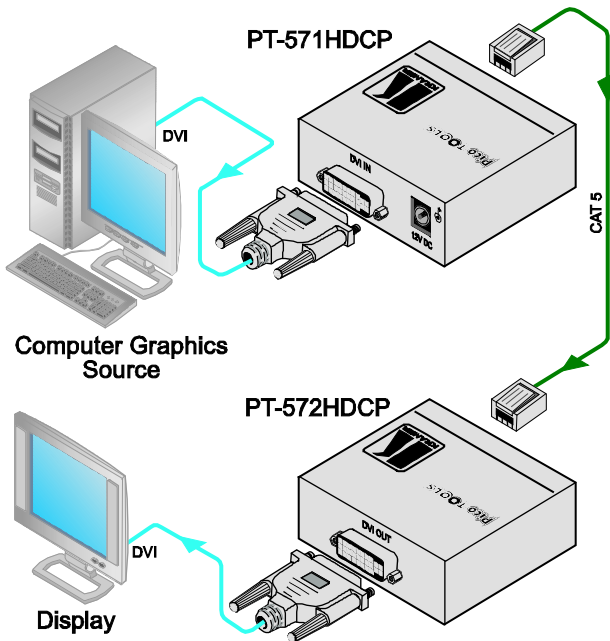

Figure 3: Connecting the PT-571HDCP / PT-572HDCP DVI Line Transmitter/Receiver
To connect the **PT-571HDCP** to the **PT-572HDCP**, as illustrated in the example in Figure 3, do the following:
4. Connect the 12V DC power adapter to the power socket on the **PT-571HDCP** and connect the adapter to the mains electricity (not shown in Figure 3).